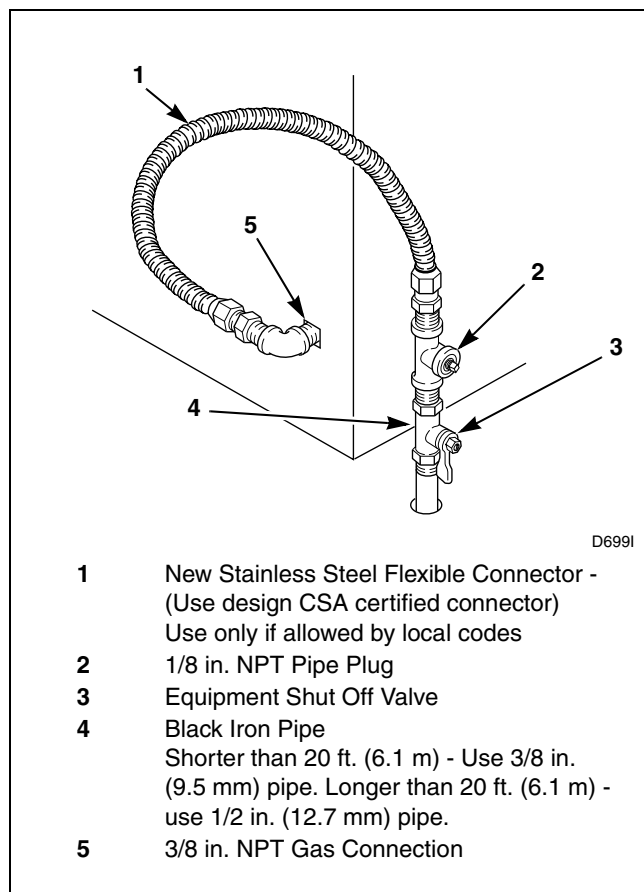

Figure 10
**NOTE:** When connecting to a gas line, an equipment shut-off valve must be installed within 6 feet (1.8 m) of the dryer. An 1/8 in. NPT pipe plug must be installed as shown for checking inlet pressure. Refer to *Figure 10*.